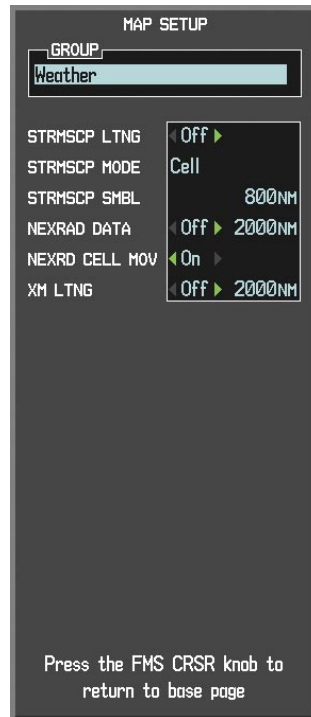

Figure 6-38 Map Setup Menu
- 3) Select the Weather group (Figure 6-38).